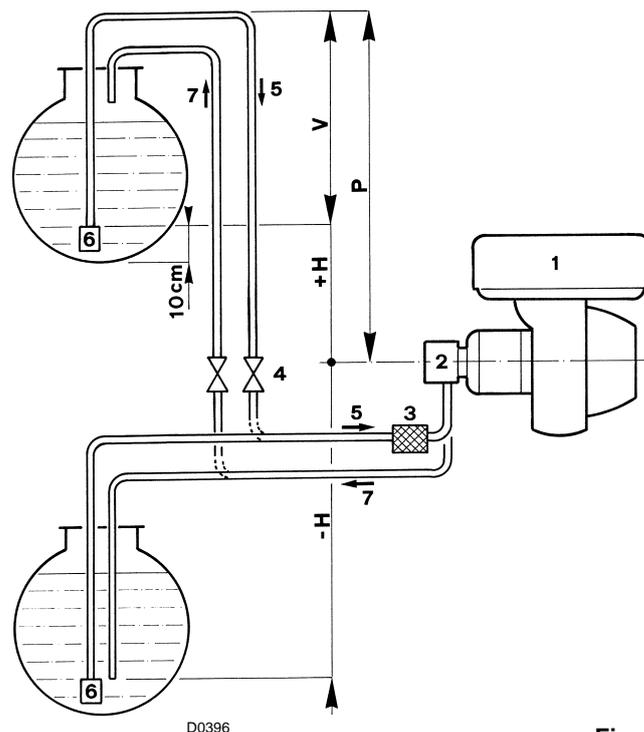

Fig. 17
Riello recommends a good quality fuel filter at the tank (Fig. 17 - Fig. 18) and a secondary filter (100 μ for gas oil) are used to protect the burner pump and nozzle from contamination.
**The tank higher than the burner A (Fig. 17)**
**The tank lower than the burner B (Fig. 17)**
**Key (Fig. 17)**